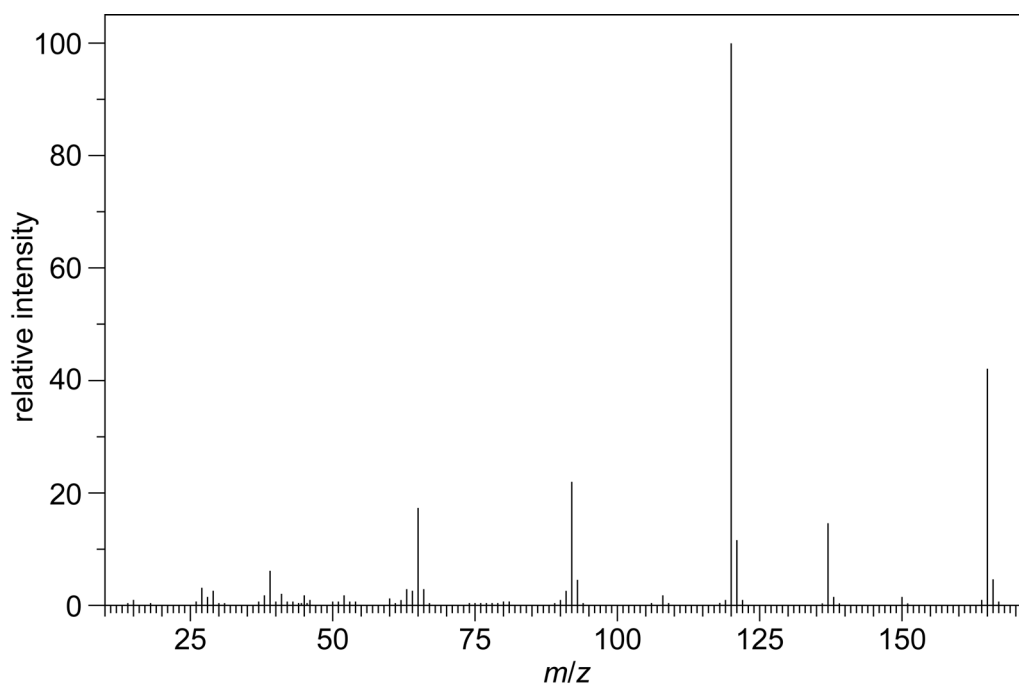
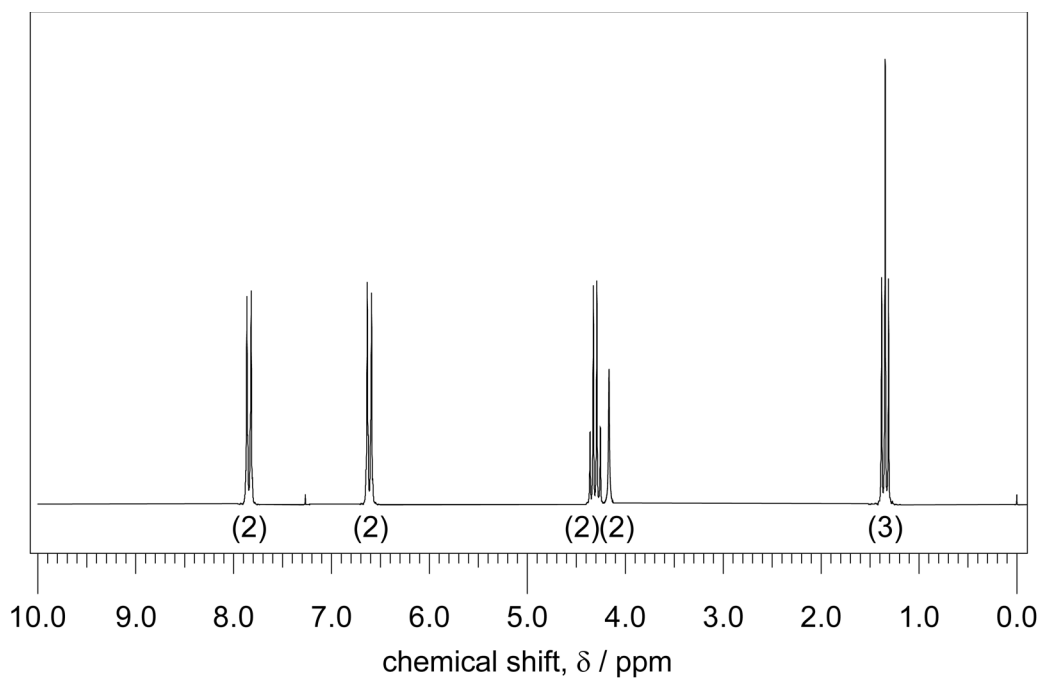

Fig. 4.1
Fig. 4.2
- 4 (a) Compound **F** is used as a local anesthetic. **F** contains C, H, N and O. Its mass spectrum and ^1H nuclear magnetic resonance (NMR) spectrum are shown in Fig. 4.1 and Fig. 4.2 respectively.
- (iii) Using the structural formula of **F** deduced in (a)(ii), suggest the structure of the fragment at m/z 92 in the mass spectrum, Fig. 4.1. [1]
- (iv) Explain why the peak at δ 4.16 in Fig. 4.2 disappears in the presence of D_2O . [1]
In the ^1H NMR spectrum of **G**, the splitting pattern in the δ 6.0 – 8.0 region is similar to that in Fig. 4.2.